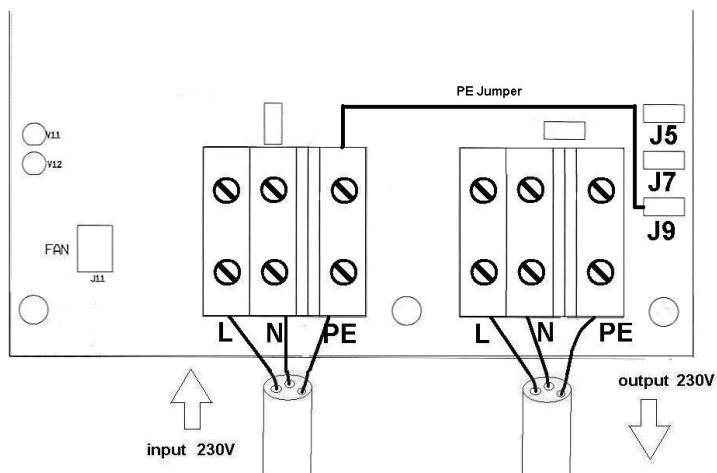

Figure 2: Input earth connection
2.2 Input earth connection (fig. 2)
- If the boat is on shore (winter period or maintenance), the PE conductor in the boat must be connected directly to the input PE, for safety reasons. This is achieved by connecting a PE jumper coming from the input PE terminal to male push-on connector J9 (jumper shown in black in fig. 2).